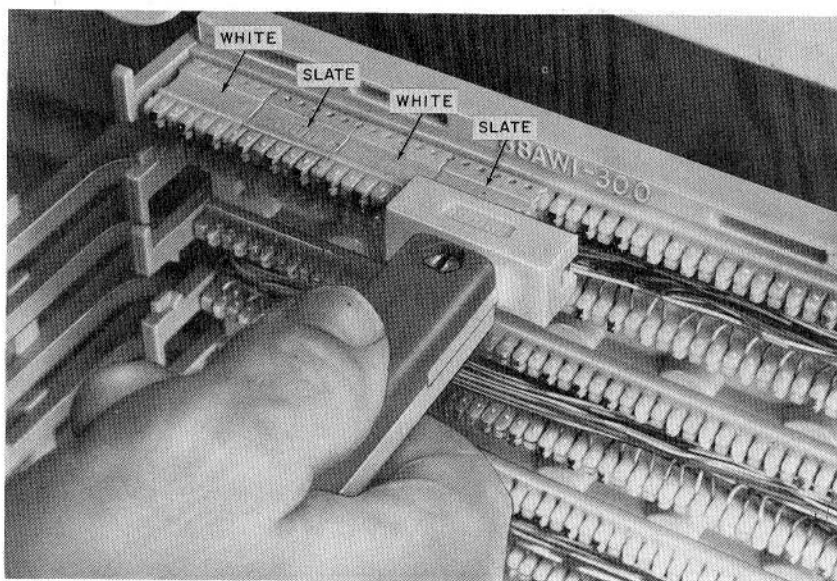

Fig. 22—Seating Connecting Block on Index Strip
3.17 The slate-white 88-type connecting blocks aid in pair identification. Place the blocks on the index strip starting with the white side up at the extreme left and alternating slate and white sides for the remainder of the strip (Fig. 22). Use the 5-pair connecting block where it is desirable to identify even-count color groups. Use the 3-pair blocks where the six leads of key system line circuits are terminated such as in the blue field. Place blocks only as required.